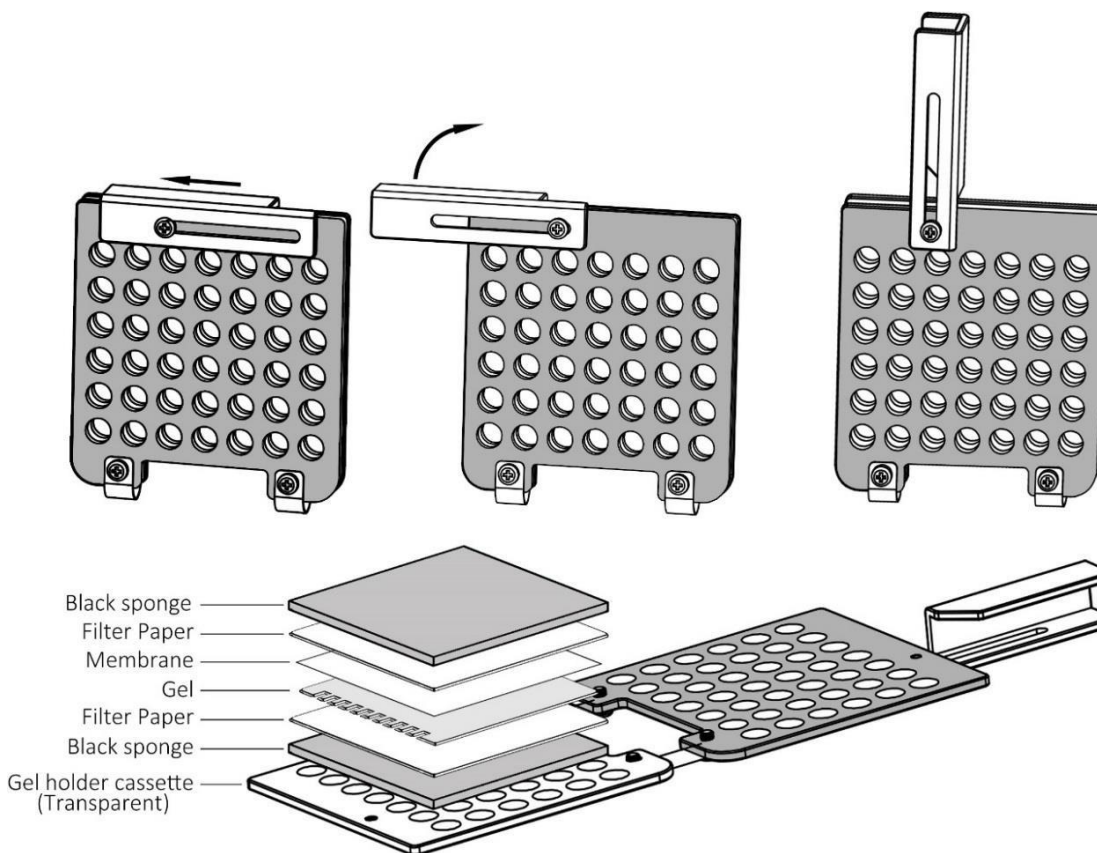

Figure 2. Assembly of Gel-Membrane Sandwich
- 1) Open the cassette as shown in the figure 2.